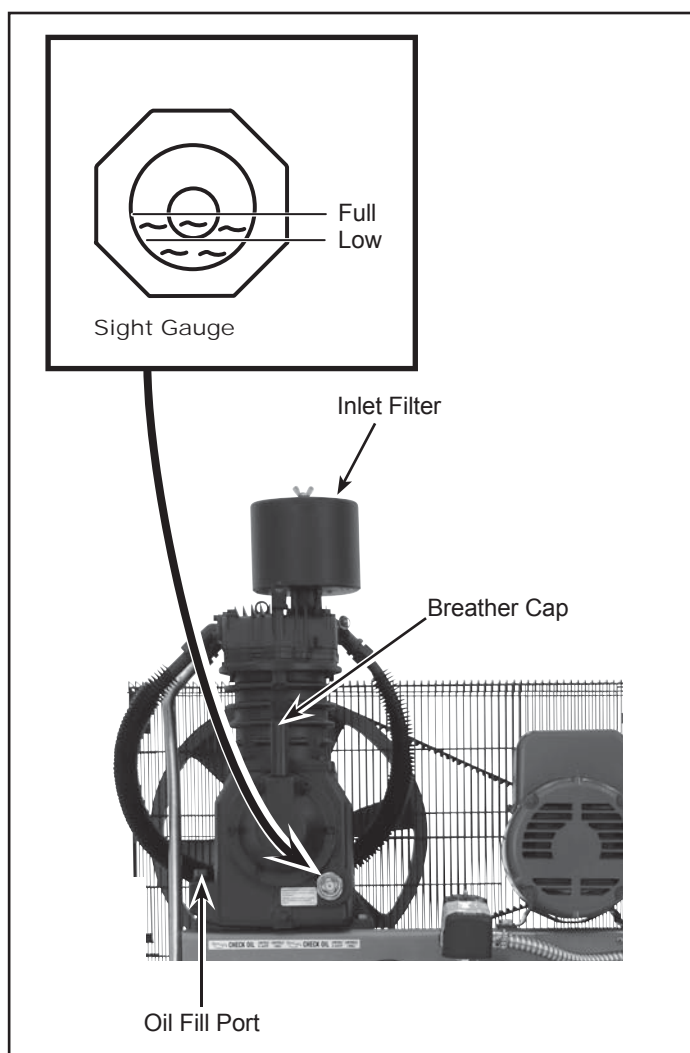

Figure 7
Use supplied self tapping screws to fasten inlet filter housing to the head of the pump. Then assemble pump with filter inside. See Figure 7.
**CAUTION** This unit contains no oil. Before operating compressor, fill to the center of the sight gauge (see Figure 7).
Fill the pump with oil to the center of the sight gauge using oil fill opening (see Figure 7). **Do NOT fill the pump through the breather cap opening as this may cause oil to leak and spray out during operation.**